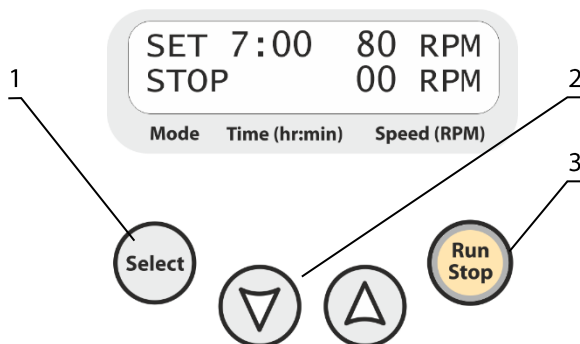

Figure 3. Control panel of CTR-6
- 5.3 **Setting the parameters.** Press the **Select** key (fig. 3/1) to choose the parameter to change. Each pressing of the **Select** key consecutively activates the parameters. The active parameter is flashing. Use the ▼ and ▲ keys (fig. 3/2) to set the necessary value. Pressing the key for more than 2 s increases the speed of value change.
- 5.4 Press the **Run Stop** key (fig. 3/3). The platform starts rotation, indication **RUN** appears on display and the timer in the lower line of the display starts counting the time interval.